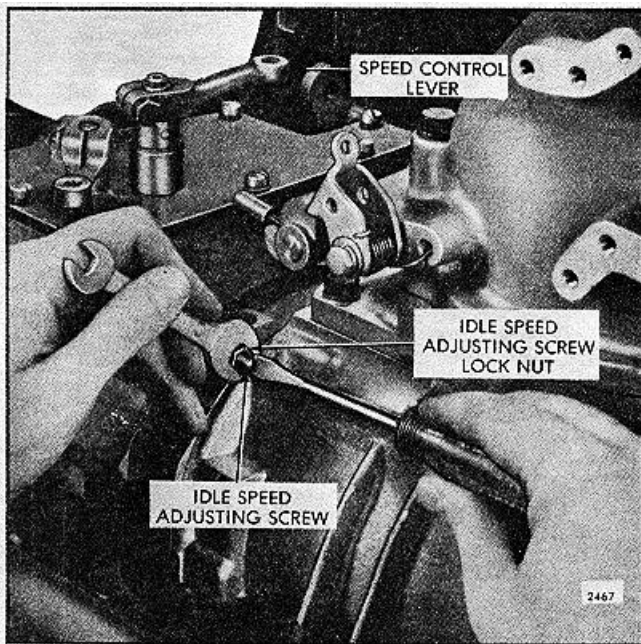

FIG. 11 - Adjusting Engine Idle Speed
1. With the engine running, at normal operating temperature and with the buffer screw backed out to avoid contact with the differential lever, turn the idle speed adjusting screw (Fig. 11) until the engine operates at approximately 15 rpm below the recommended idle speed.